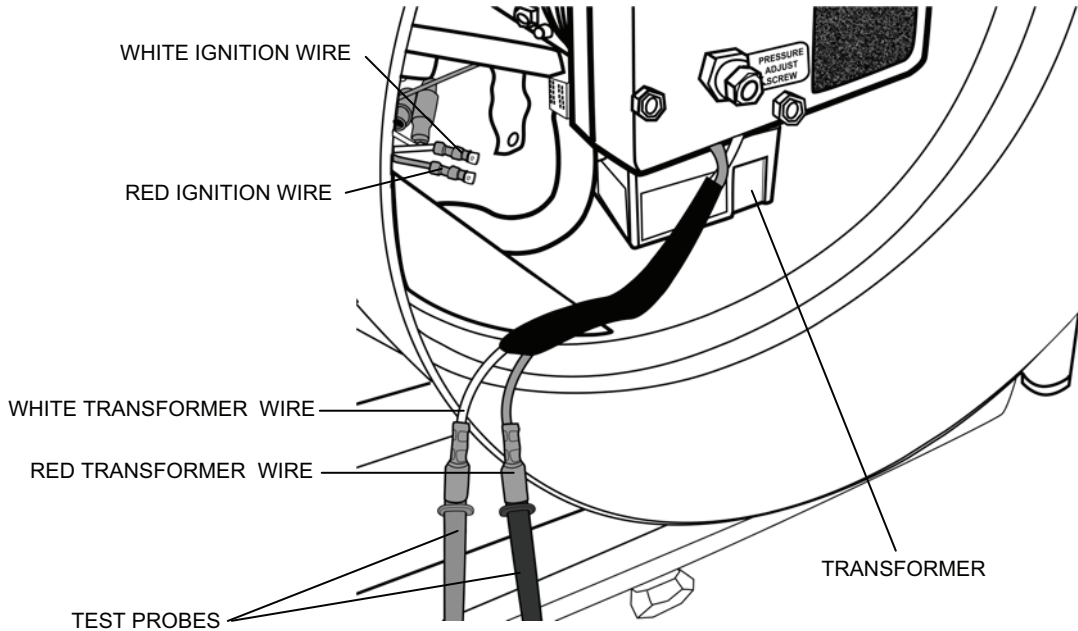

Figure 13. Diesel Heater Safety Control Operation Test Set-Up.
5. Check the operation of the safety control as follows (see Figure 13):